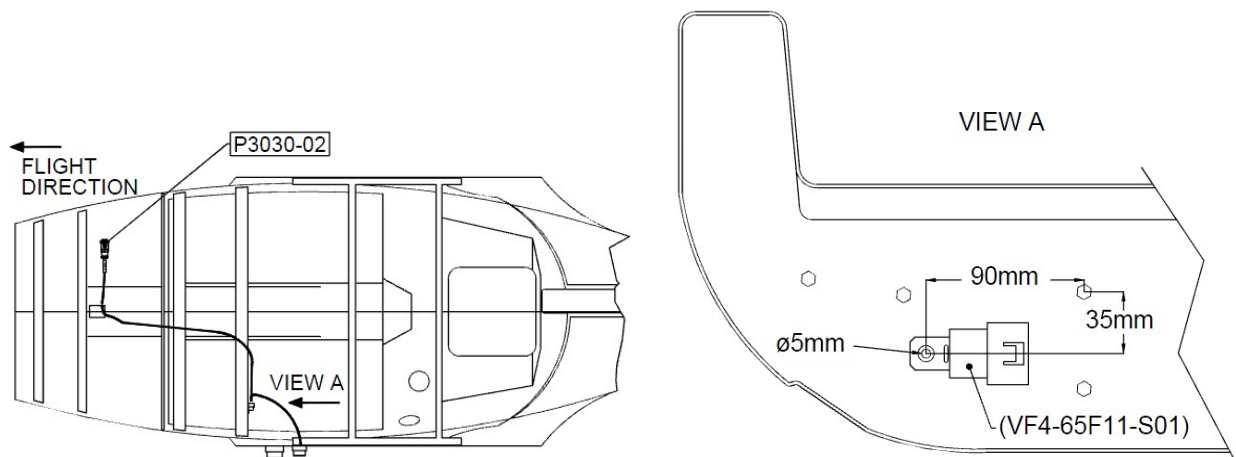
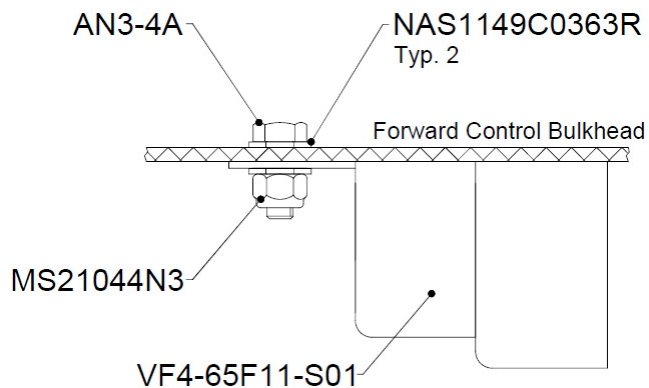

Figure 21: Modification to Forward Control Bulkhead
Figure 28: Mounting the Relay
12.1.2 Drill a 5mm diameter hole in the forward control Bulkhead as shown in VIEW A of Figure 21.
12.2.3 Route the new wire harness along the existing fuselage wire harness and secure with the supplied cable ties (p/n: MS3367-5-9). See Figure 21 as reference.
12.2.4.1 Mount the relay in the Forward Control Bulkhead according to Figure 28. Reference Figure 21 for the location of the hole and the orientation of the relay.